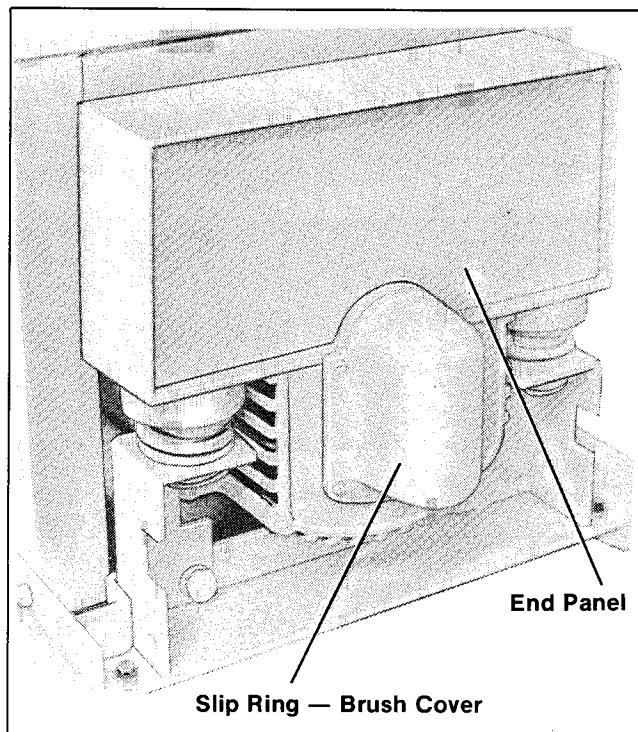

Figure 6-2. Slip Ring — Brush Cover
7. Remove generator end panel (Figure 6-2).
8. Remove slip ring-brush cover (Figure 6-2).